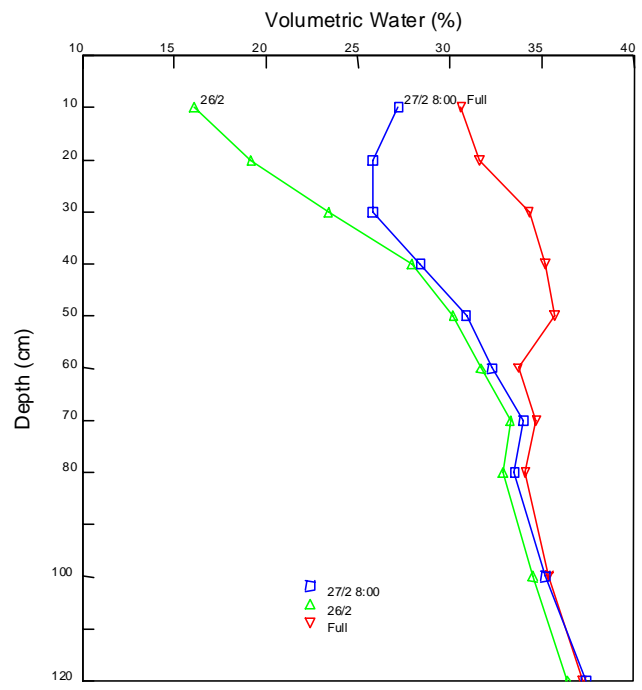

Figure 5. Infiltration after last irrigation
- The last irrigation had similar infiltration to that of the first. (Figure 5).